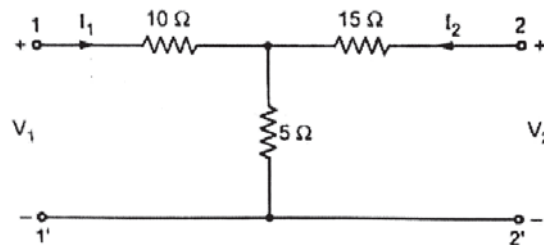

Fig. No. 3
b) Find Z parameters of the network shown in figure no. 3. [8]